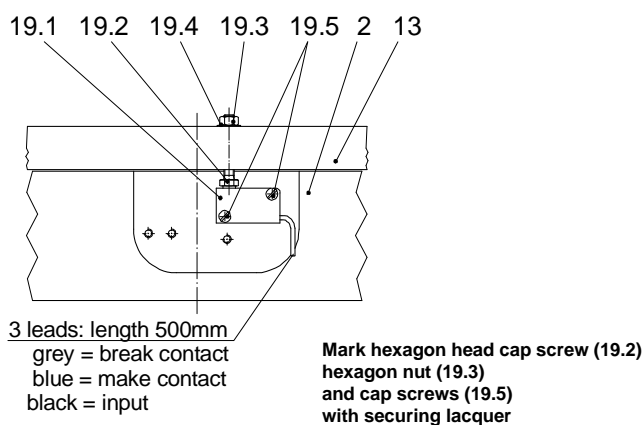

Fig. 8 (Size 250 – 2000)
3. Screw micro switch (19.1) using cap screws (19.5) to the brake body (2) at the wear monitoring side (Fig. 8) (secure cap screws (19.5) with LOCTITE 243).
4. Screw brake to the machine wall (12) or assembly device with nominal tightening torque, **put measuring strip "Z" between all distance sleeves (7) and machine wall (12) or assembly device according to Table 8.**